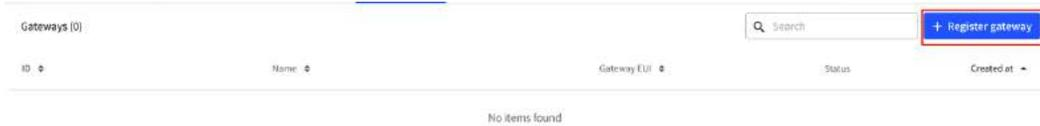

Figure 6.20 – LoRaWAN gateway registration – step 3
5. Then, we will be on the page that shows the complete list of gateways, as well as the option to register a new gateway, as shown in *Figure 6.20*.